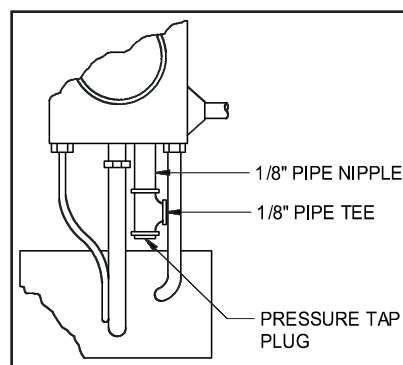

Figure 6
2. Replace the pressure tap plug with the $\frac{1}{8}$ " pipe nipple and pipe tee. (See Figure 6)